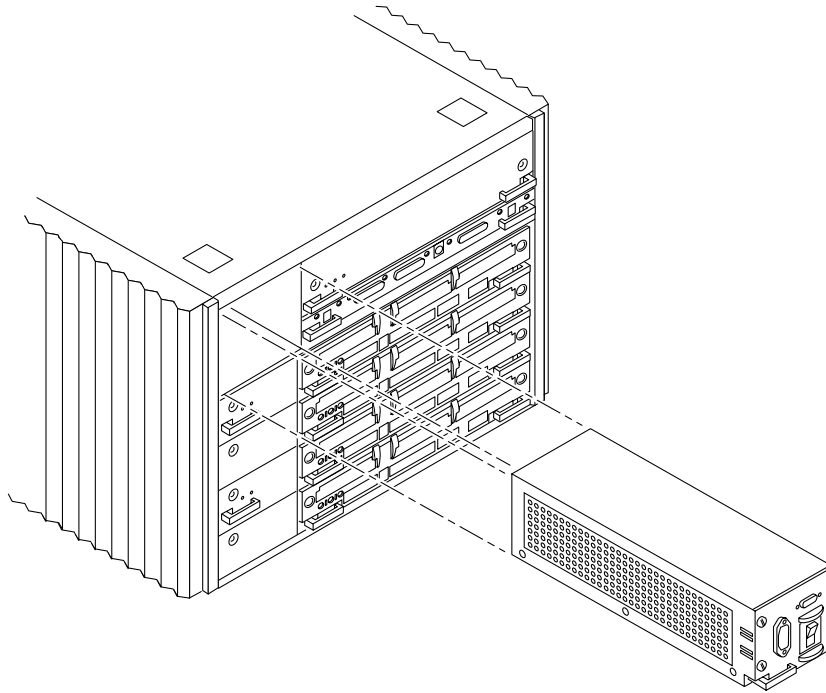

FIGURE E-14 Removing the Fan Tray from the Enterprise 4500 System
2. Locate the fan tray assembly (FIGURE E-14) at the rear of the system.
Viewed from the rear of the system, the fan tray is on the left side of the enclosure. See FIGURE E-14.